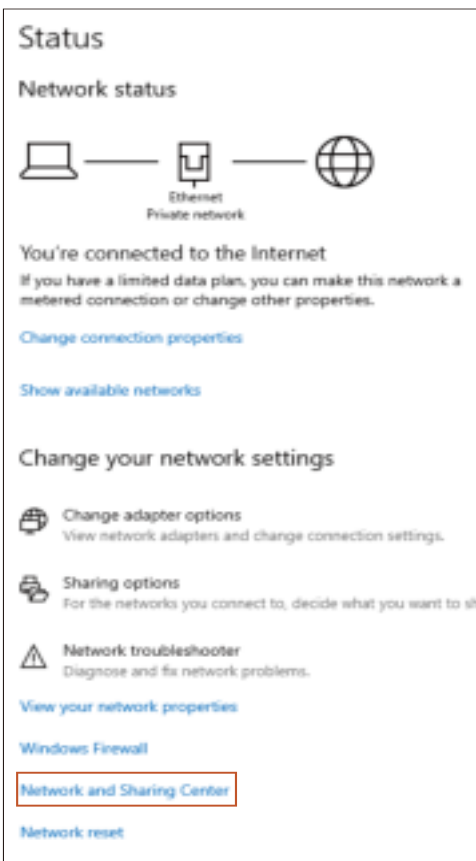

Figure 4.1
- (1) Connect the Control Box to the PC directly with a Network Cable, and then modify the IPV4 address of the PC to be the same as the network segment of the Control Box. The factory IP address of the device has been marked on the side of the Control Box. The IP settings on the PC are shown in Figure 4.1 -4.5;